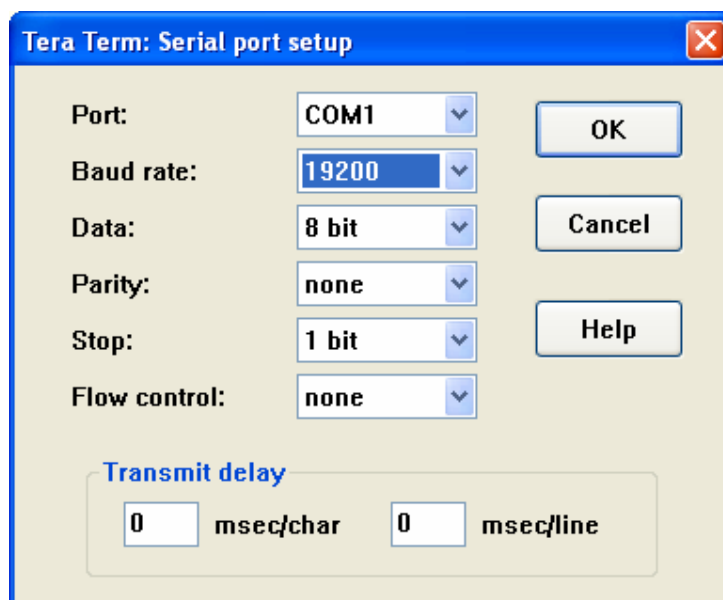

Figure 6-18: Serial Port Setup Screen
20. Select these serial port properties, then click **OK** (Figure 6-18).